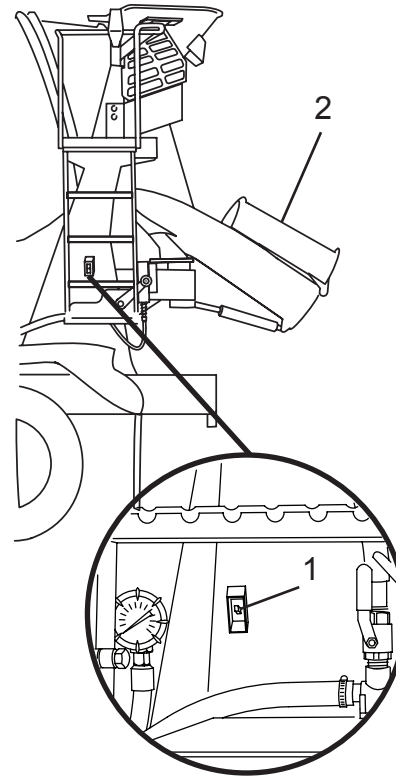

Figure 110
The hydraulic fold-over toggle switch (Figure 110, Item 1) enables the operator to fold or unfold the fold-over chute (Figure 110, Item 2) using a hydraulic cylinder.
3. Press and hold the fold-over toggle switch (Figure 110, Item 1) until the fold-over chute (Figure 110, Item 2) is fully seated against the main chute.
1. Press and hold the fold-over toggle switch (Figure 110, Item 1) until the fold-over chute (Figure 110, Item 2) is fully seated against the main chute. Release the switch.